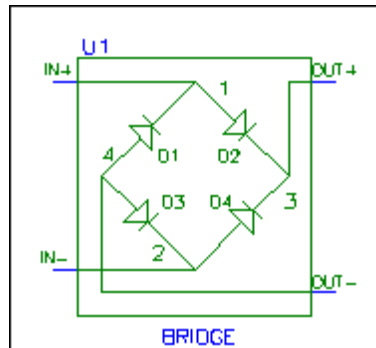

Figure 19 Example of Diode Bridge Rectifier Symbol
The symbol to be created will look very similar to Figure 19.
- a Place the IN+ and IN- pins as shown in Figure 19.
- c Place the OUT+ and OUT- pins as shown in Figure 19.